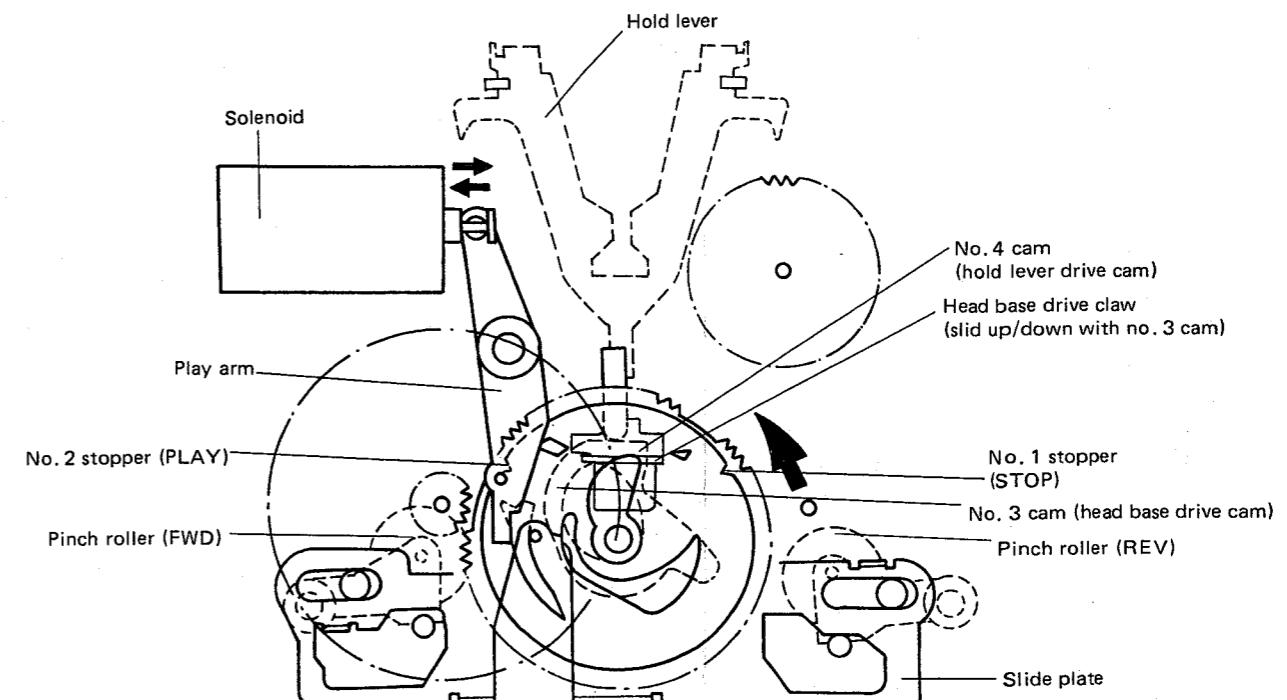

Fig. 1-4 Change from stop to forward playback mode
- (1) When the FWD PLAY button is pressed, current is passed to the capstan motor and the solenoid which is activated (current applied for 60ms) to turn the play arm counter clockwise.
- (2) Since the play arm is thus disengaged from the no. 1 cam gear stopper, the cam gear is forced counter clockwise by the hold lever to engage and consequently be driven by the capstan gear.
- (3) As a result of the rotational movement of the play arm and cam gear, the slide plate plate pin moves along route no. 1 (.....>).
- (4) Cam gear rotation also results in no. 3 cam pushing the head base drive claw upwards.
- (5) When the cam gear has been rotated by about 235° , no. 2 stopper on the cam gear meets the play arm pin and is subsequently stopped with the deck now in forward playback mode (see Fig. 1-4). In this condition,